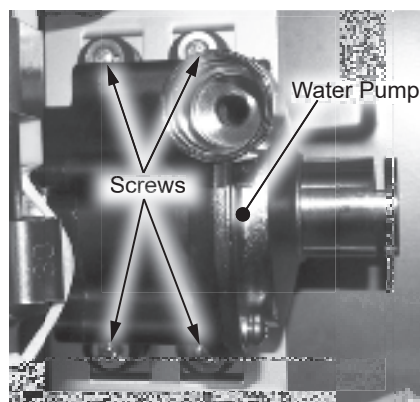

Figure 170 - Water pump screw locations
- 22 Locate the four (4) screws securing the water pump assembly to the bracket at the back side of the water heater cabinet. Use a 12" Phillips screwdriver to loosen screws so they no longer engage bracket threads. Do not remove screws from gasket boots. See Figure 170.